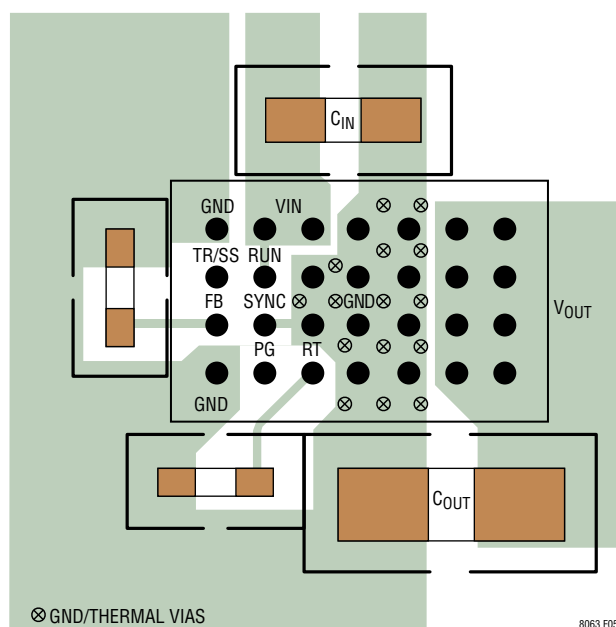

Figure 5. Layout Showing Suggested External Components, GND Plane and Thermal Vias
Most of the headaches associated with PCB layout have been alleviated or even eliminated by the high level of integration of the LTM8063. The LTM8063 is nevertheless a switching power supply, and care must be taken to minimize EMI and ensure proper operation. Even with the high level of integration, you may fail to achieve specified operation with a haphazard or poor layout. See Figure 5 for a suggested layout. Ensure that the grounding and heat sinking are acceptable.
6. Use vias to connect the GND copper area to the board's internal ground planes. Liberally distribute these GND vias to provide both a good ground connection and thermal path to the internal planes of the printed circuit board. Pay attention to the location and density of the thermal vias in Figure 5. The LTM8063 can benefit from the heat-sinking afforded by vias that connect to internal GND planes at these locations, due to their proximity to internal power handling components. The optimum number of thermal vias depends upon the printed circuit board design. For example, a board might use very small via holes. It should employ more thermal vias than a board that uses larger holes.